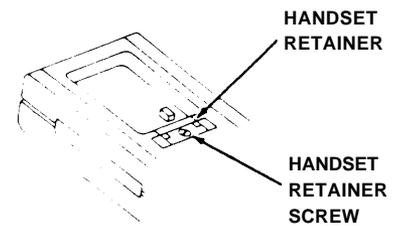

Figure 5
- Remove the screw under the number card and lift out the handset retainer from the upper housing (see Figure 5).